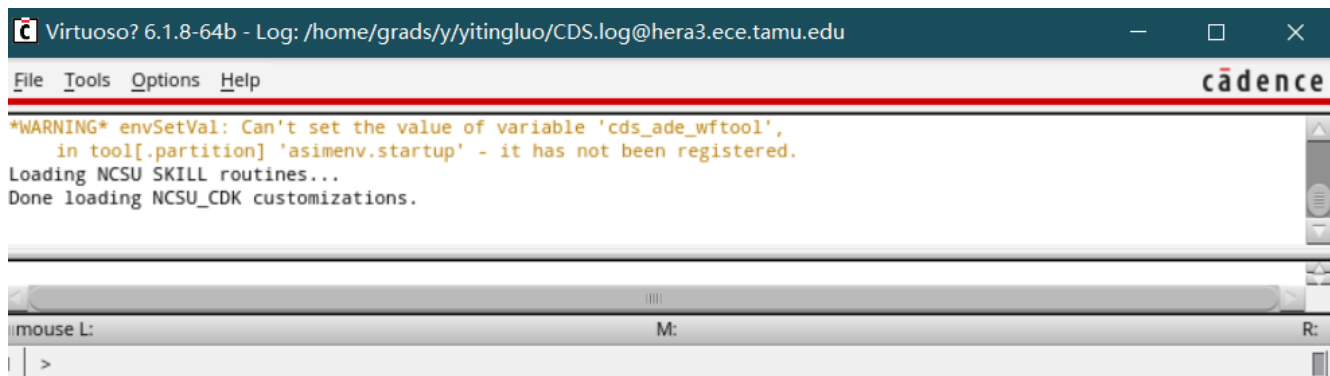

Figure 1. CIW Window
- The above sections contained instructions on how to capture a schematic and perform logic simulation. Now we have to follow these instructions to complete the entire design (keep figure 1 of “Lab 0” in mind...that is what we have to build and simulate to verify) of the pipelined adder. Make sure you name the schematics and other files you use appropriately so that you may look back anytime.